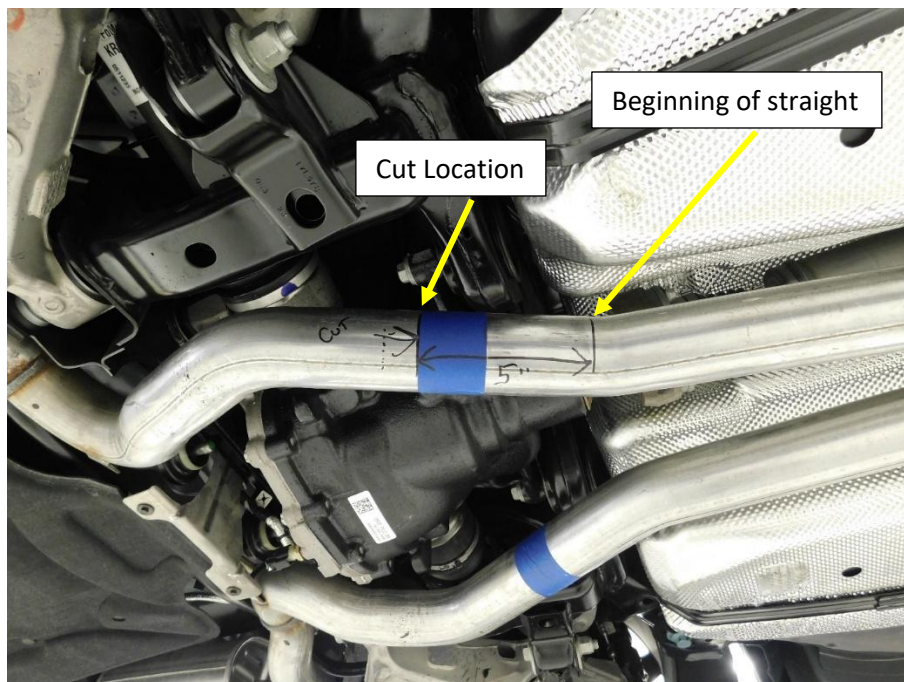

Figure. 2
2. Mark the exhaust pipe between the center resonator and the Muffler as shown in **Fig.2**
- Use a reciprocating saw or cut off wheel and cut the exhaust at the edge of the tape as shown in **Fig.2**